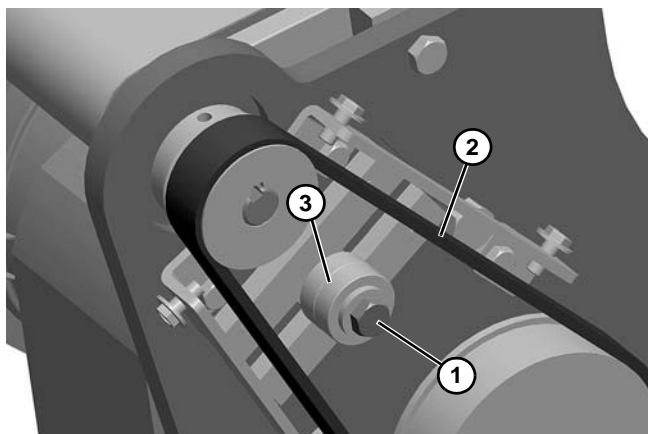

Figure 27
2. Loosen screw (**Figure 27, item 1**). Add tension against timing belt (**Figure 27, item 2**) by moving bearing (**Figure 27, item 3**). Tighten screw.
3. Add tension against timing belt (**Figure 27, item 2**) by moving bearing (**Figure 27, item 3**). Tighten screw.